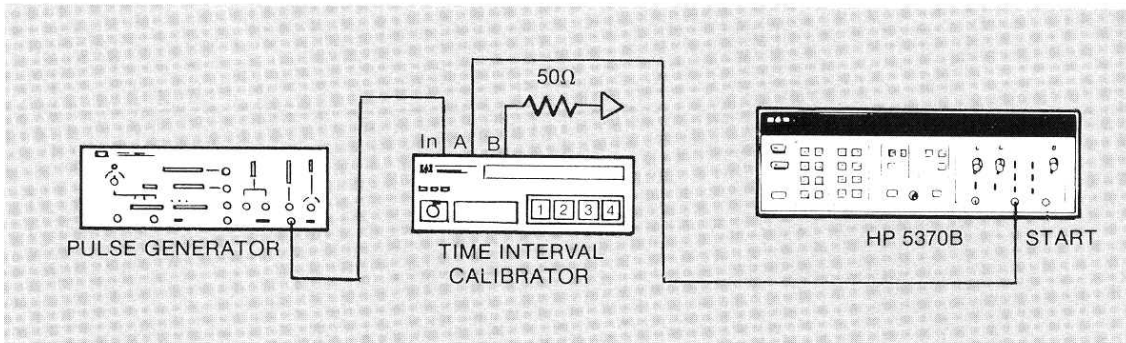

Figure 8. Equipment set-up for pulse width calibration
- 1) Connect the equipment as shown in Figure 8. Only one cable will be used to connect between the START input channel on the counter and the A connector on the calibrator. A 50Ω termination is connected to the B connector on the calibrator.